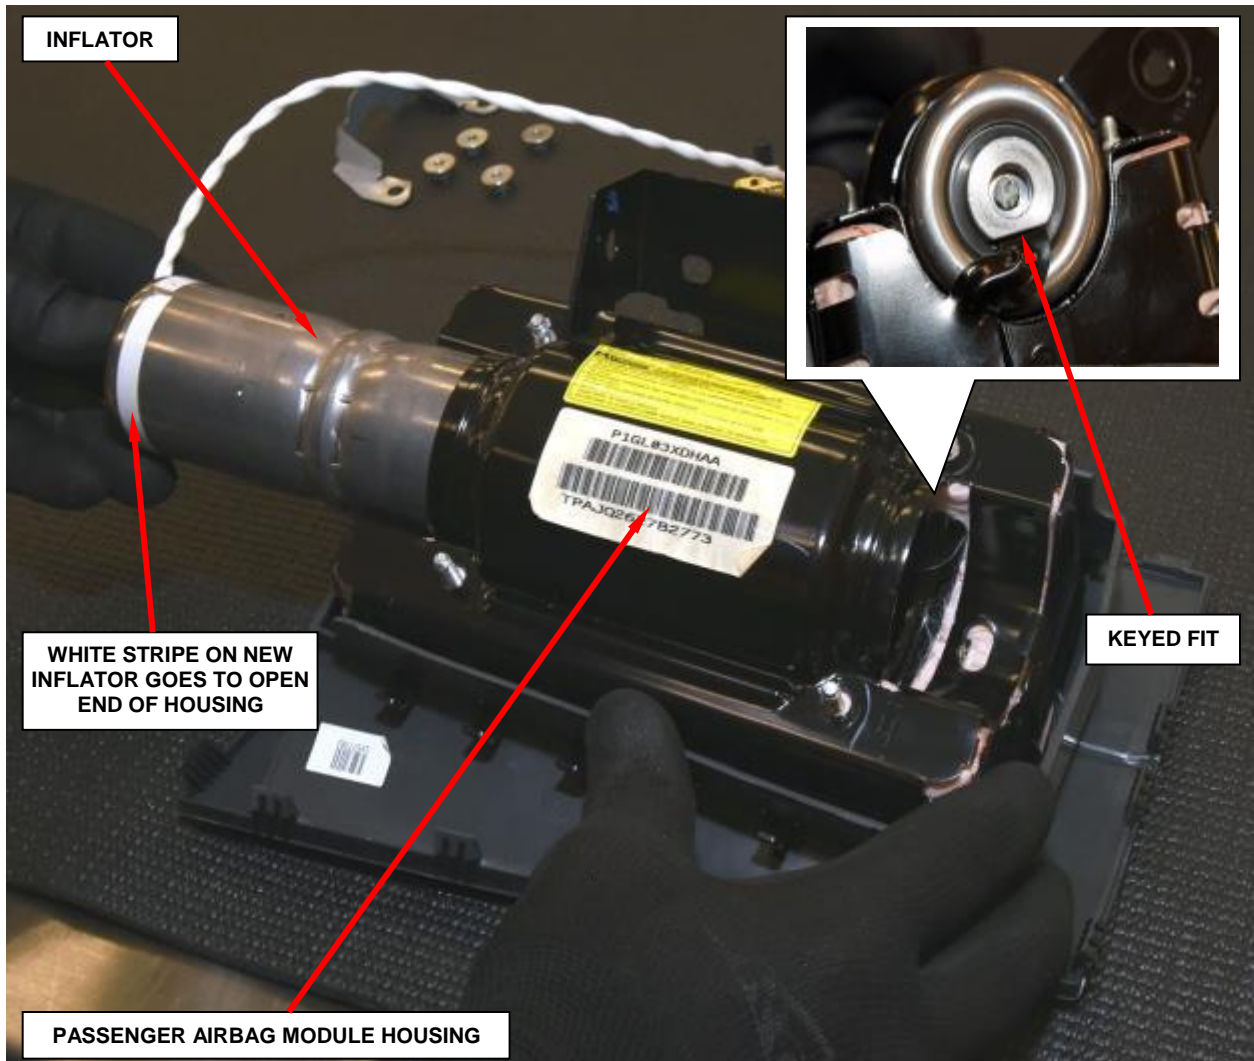

Figure 9 – Passenger Inflator Installation
- f. Slide the **NEW** inflator into the passenger airbag module housing. The keyed end is inserted first; therefore, the white stripe on the **NEW** inflator will be located at the open end (Figure 9).
NOTE: The inflator is keyed to fit into the housing (Figure 9).